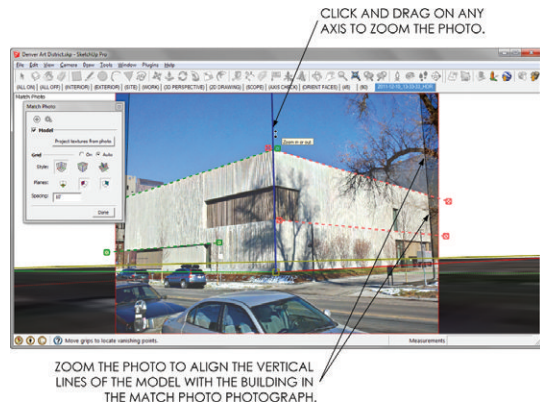

Figure 16.13 Click and drag on any axis to zoom the photo.
- Zoom the Match Photo photograph to match the model by clicking and dragging on an axis until the vertical walls of the SketchUp model match the walls of the Match Photo photograph (Figure 16.13). The footprint is correct now; that is why you align the vertical walls. The building height is not yet correct and should be ignored for now because it was drawn at an exaggerated height.